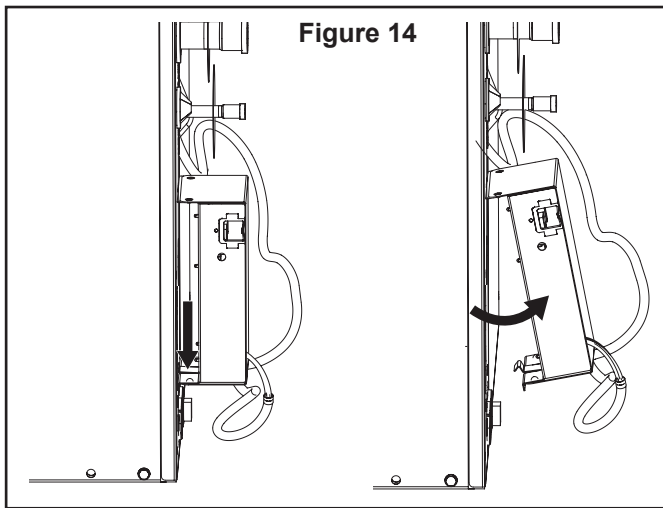

Figure 14
1. Clear all A2L sensor wires well away from the braze connections both inside and outside the coil cabinet. If needed, the control box may be removed from the lineset panel by pressing outward on snap and rotation out for clearance. See Figure 14.